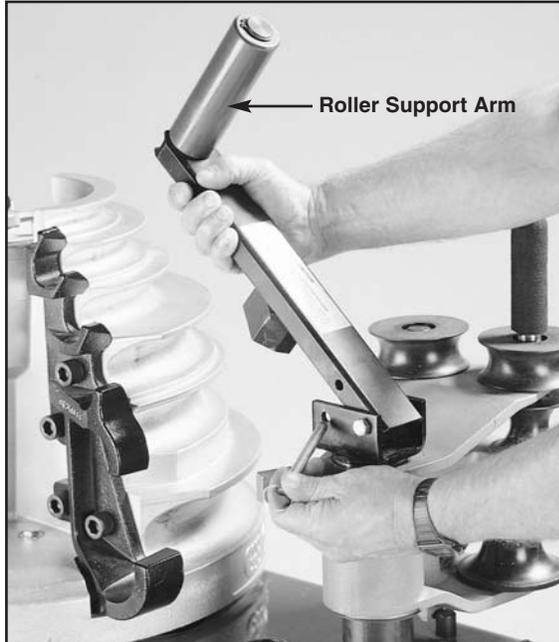

Figure 5. Position Roller Support
7. Lift the roller support arm to clear the nylon rollers and swing the arm (toward shoe) over the roller housing. Lower the arm into the support bracket and insert the ring pin. See Figure 5.